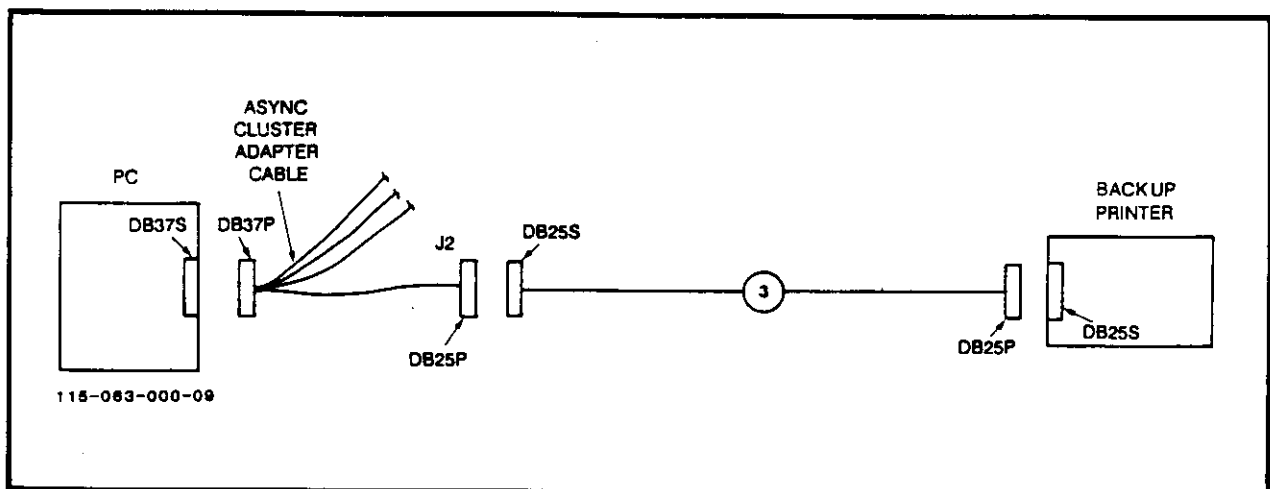

Figure 3-9. Local Backup Printer Connection
7.01 If you have a local cable kit, refer to Figure 3-9 and follow the steps below to connect it.